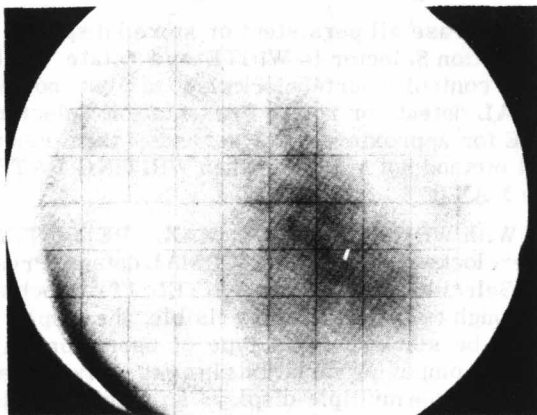
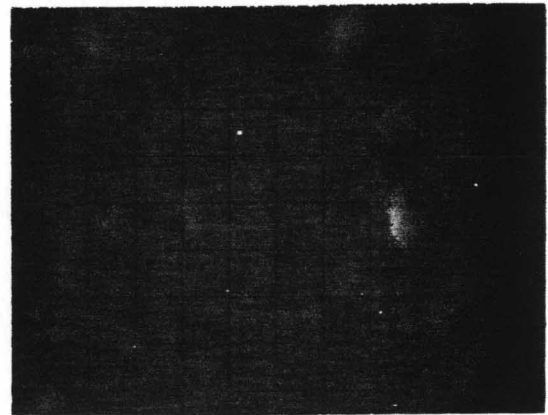

Figure 3-2. Background illumination occurs when erasing with WRITING RATE in MAX
Figure 3-9. Small bright spots caused by minute imperfections in storage mesh
i. **BACKGROUND ILLUMINATION** - A green cloud of illumination visible on the CRT screen, Figure 3-2.
m. Figures 3-2 through 3-9 are provided to show typical CRT displays with various control settings and input signals. They are examples which, if duplicated by the operator, will aid in understanding the operation of the Model 141A. Figure 3-9 shows small bright spots on the CRT screen which are caused by minute imperfections in the storage mesh.